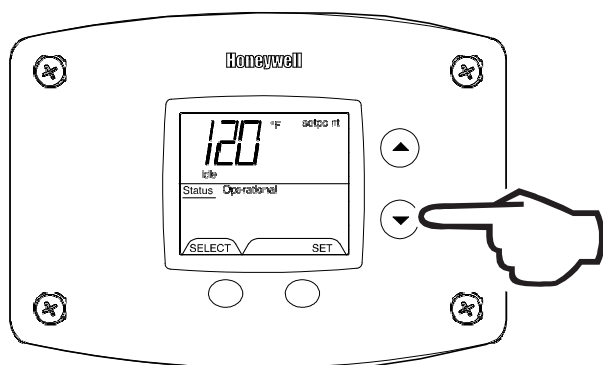

Fig. 16
1. Depress and hold 'Temperature Down' button until desired setpoint temperature appears in the display (Fig. 16).